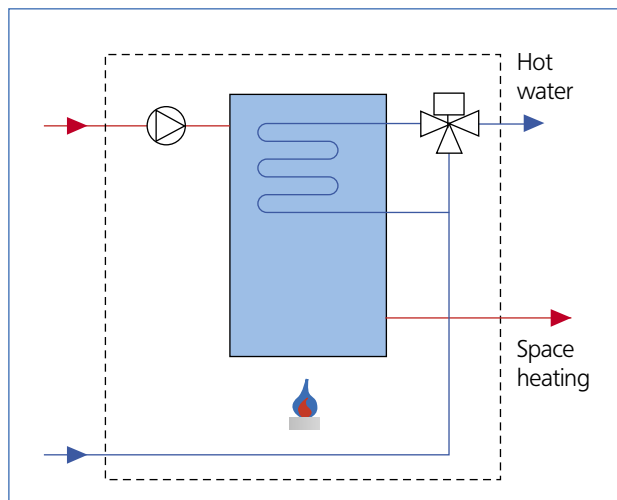

Figure 5: CPSU
- Combined Primary Storage Units (CPSU): see figure 5.